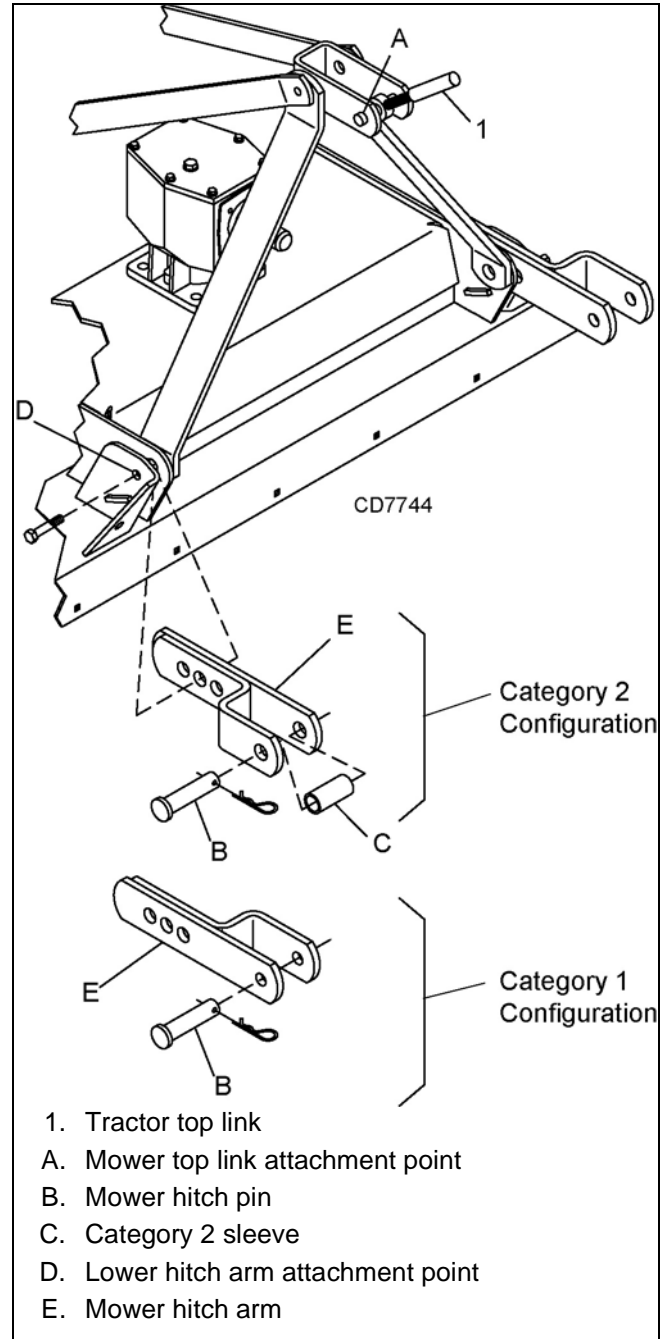

Figure 7. Top Link Adjustment
When the cutting height is set, adjust tractor top link until mower top link attachment point (A) is aligned vertically with mower hitch pin (B), Figure 7.
The mower has three lower hitch plate attachment points (D), Figure 7. It may be necessary to change the mower hitch plate attachment point to obtain proper tire clearance and/or lift height.
3. If there is interference adjust mower hitch arm (E) as shown in Figure 7.